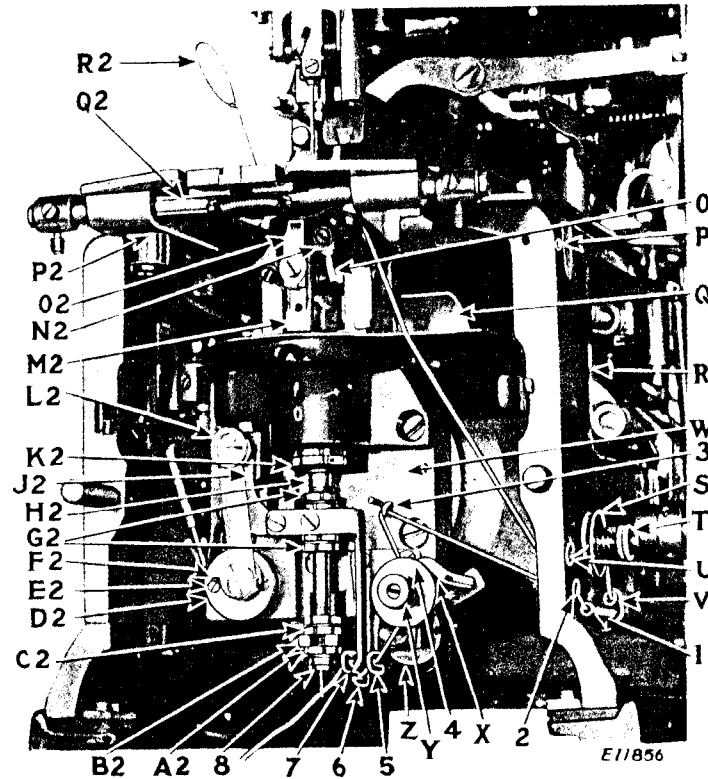
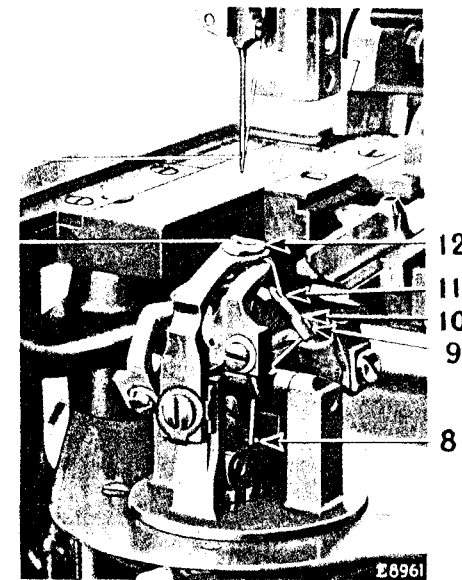
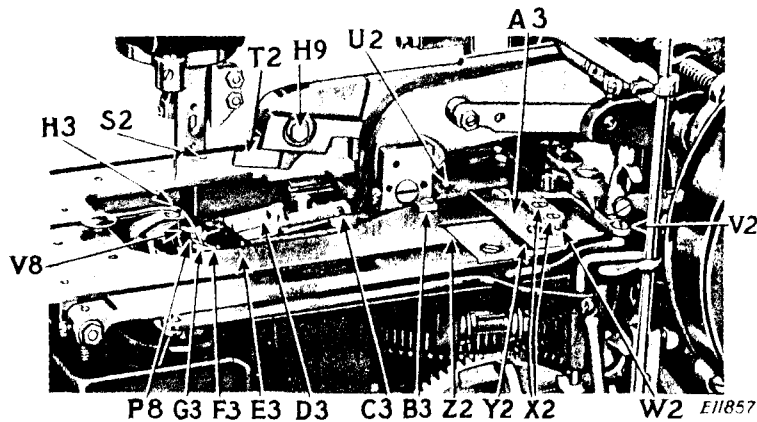

Fig. 3. Threading the Looper
Fig. 4. Threading the Looper
Fig. 5. Threading the Cord
Pass the thread from the unwinder through the lower brass tube (1, Figs. 3 and 10) which is attached to the right side of the bed of the machine (using the threading wire furnished for the purpose), then through the lower hole (2, Fig. 3) in the bed of the
machine at the front of the brass tube, through the wire thread eyelet (3, Fig. 3), down, under and from right to left between the
tension discs (4, Fig. 3), from right to left through the right hand self-threading guide slot (5, Fig. 3) in the thread controller bracket, through the slot in the thread controller (6, Fig. 3) and through the left hand self-threading guide slot (7, Fig. 3) in the thread controller bracket. Pass the threading wire (R2, Fig. 3) between the throat plate (O2, Fig. 3) and right hand loop retainer (N2, Fig. 3) down through the hollow loop retainer driving bar (8, Figs. 3 and 4). Hook the thread on the end of the wire and draw it up through the hollow bar (8) up through the slot (9, Fig. 4) in the heel of the looper, as illustrated in Fig. 4, down through the centre hole (10, Fig. 4) in the looper and up through the hole (11, Fig. 4) in the point of the looper, then up through the large needle hole (12, Fig. 4) in the throat plate.
The work clamp plates having been swung outward and the bed end cover removed, pass the cord from the unwinder through the upper brass tube (V, Figs. 3 and 10) which is attached to the right side of the bed of the machine (using the threading wire furnished for the purpose), then pass the cord over and between the tension discs (S, Fig. 3) adjacent to the cord tube, through the hole (U, Fig. 3) in the right hand side of the bed of the machine, up through the hole (G3, Fig. 5) in the cord guide leader under the spring tension (F3, Fig. 5), thence from back to front through the cord hole (H3, Fig. 5) near the centre of the throat plate, the cord leading toward the operator as shown in Fig. 5. Then swing the work clamp plates back into place and
When a hard finish or stiff cord is used, the cord should pass through the hole (P, Fig. 3) in the upper right hand side of the bed instead of the lower hole (U, Fig. 3).
The tension on the looper thread is regulated by the thumb nut (Y, Fig. 3) at the front of the tension discs inside the front of the bed of the machine. To increase the tension, turn this thumb nut over to the right. To decrease the tension, turn this thumb nut over to the left. The tension on the looper thread should be sufficient to balance the tension of the needle thread and give the desired character to the formation of the stitch.
The tension on the cord is regulated by the thumb nut (T, Fig. 3). To increase the tension, turn this thumb nut over from you. To decrease the tension, turn this thumb nut over toward you. The tension on the cord should be light.
When it is desired to make a different style and length of buttonhole it will be necessary to change the pattern wheel (U5, Fig. 9), buttonhole cutting block (T2, Fig. 5) and the cutting knife (D3, Fig. 5). Some pattern wheels produce two styles of buttonholes as shown in the lists on pages 5 to 10 inclusive, in which cases the following adjustment is necessary to change from one style of buttonhole to the other.